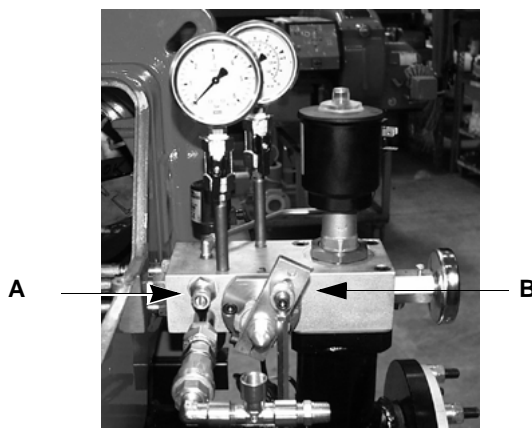

Fig. 21
- Remove and clean the compressed air regulator **A** in Fig. 21.
- Remove and clean the oil regulator **B** in Fig. 21.